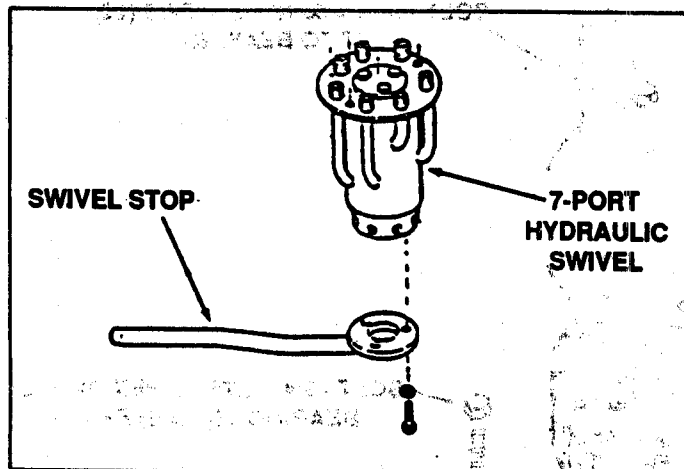

Figure 6.
6. Remove the swivel stop from bottom of the hydraulic swivel, Figure 6.